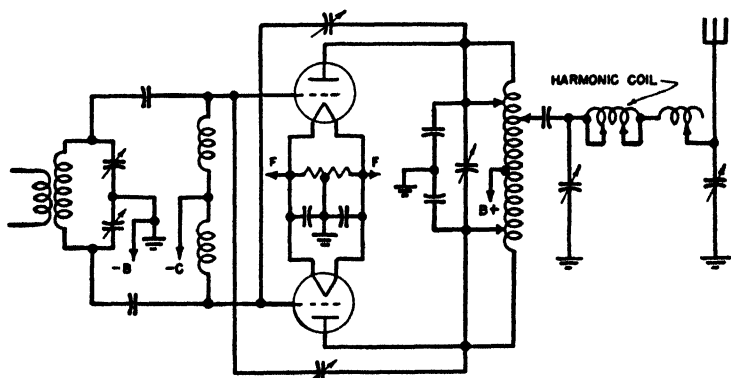

FIG. 4-10.—Capacitive coupling and harmonic suppression arrangement.
**Ans.** Figure 4-10 illustrates a capacitive coupling system.